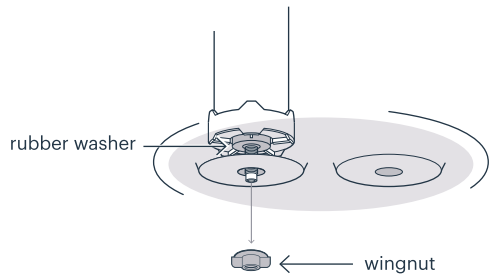

Figure 11
- 2 Insert the stem of the filter into an empty hole on the inside of the upper chamber. On the outside of the chamber, thread the wingnut onto the filter stem and hand tighten until secure (Figure 11).
Ensure the washer is properly located underneath the filter and inside the upper chamber, and the wingnut is firmly tightened (see Figure 11 on page 11).